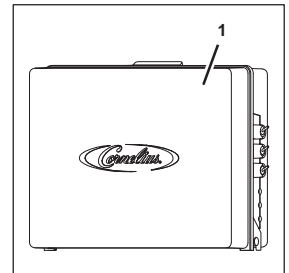

Fig. 58
1. Open the cover (Fig. 58/1) of the control system.
9. Close the cover (Fig. 58/1) of the control system.